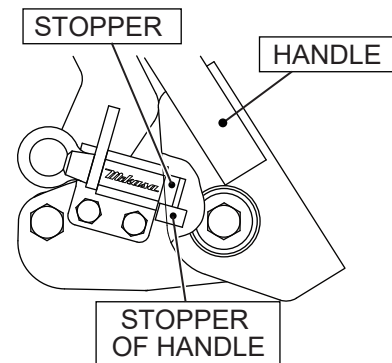

Fig.10
- b. Fix the handle by inserting the stopper pin to the stopper of handle (fig.10).